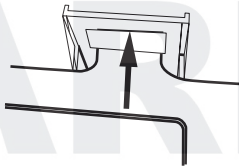

Fig.5
2. Changing the shade cartridge (See figs.5)